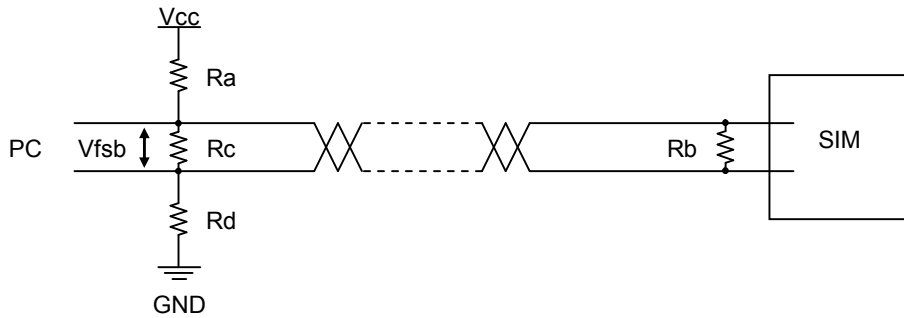

Figure 35 - FAILSAFE bias resistance
- Because the device driving a communication bus does not exist in the state of no communication, a noise may lead unstable signal which causes communication failure such as a flaming error. When the communication failure is occurred, connect one external pull up and pull down resistance to the PC side to provide a FAIL-SAFE bias. (refer to Figure 35)